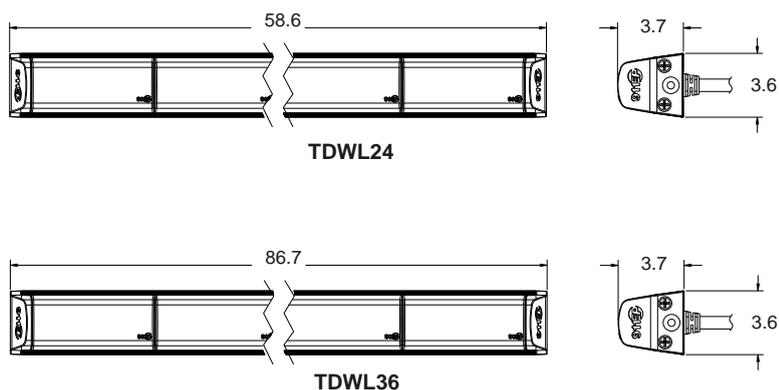

Figure 1. Dimensions TDWL24 - TDWL36
2. CARACTÉRISTIQUES PHYSIQUES TDWL24 - TDWL36 (Figure 1.)